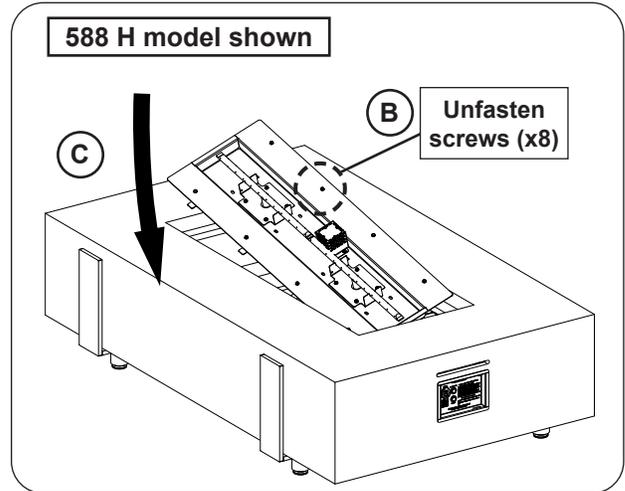

Fig. 32-2 Lower burner into unit
Use a $\frac{5}{16}$ " nut driver to loosen the 8 screws found on the burner assembly (see Fig. 32-2, B).
2. Carefully lower the burner down into the pit housing (see Fig. 32-2, C).